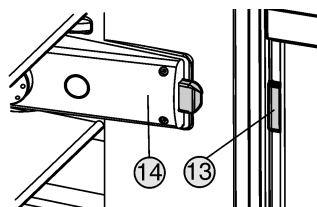

Fig. 8
The cam Fig. 8 (13) has to be situated on the side of the light housing Fig. 8 (14).